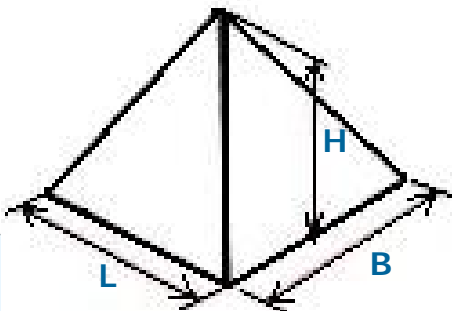

Fig. 3
3. Multiply Load Weight by Load Angle Factor to get total load on sling legs. ( $2000 \text{ kg} \times 1.414 = 2828 \text{ kg}$ ) **(Fig.3)**